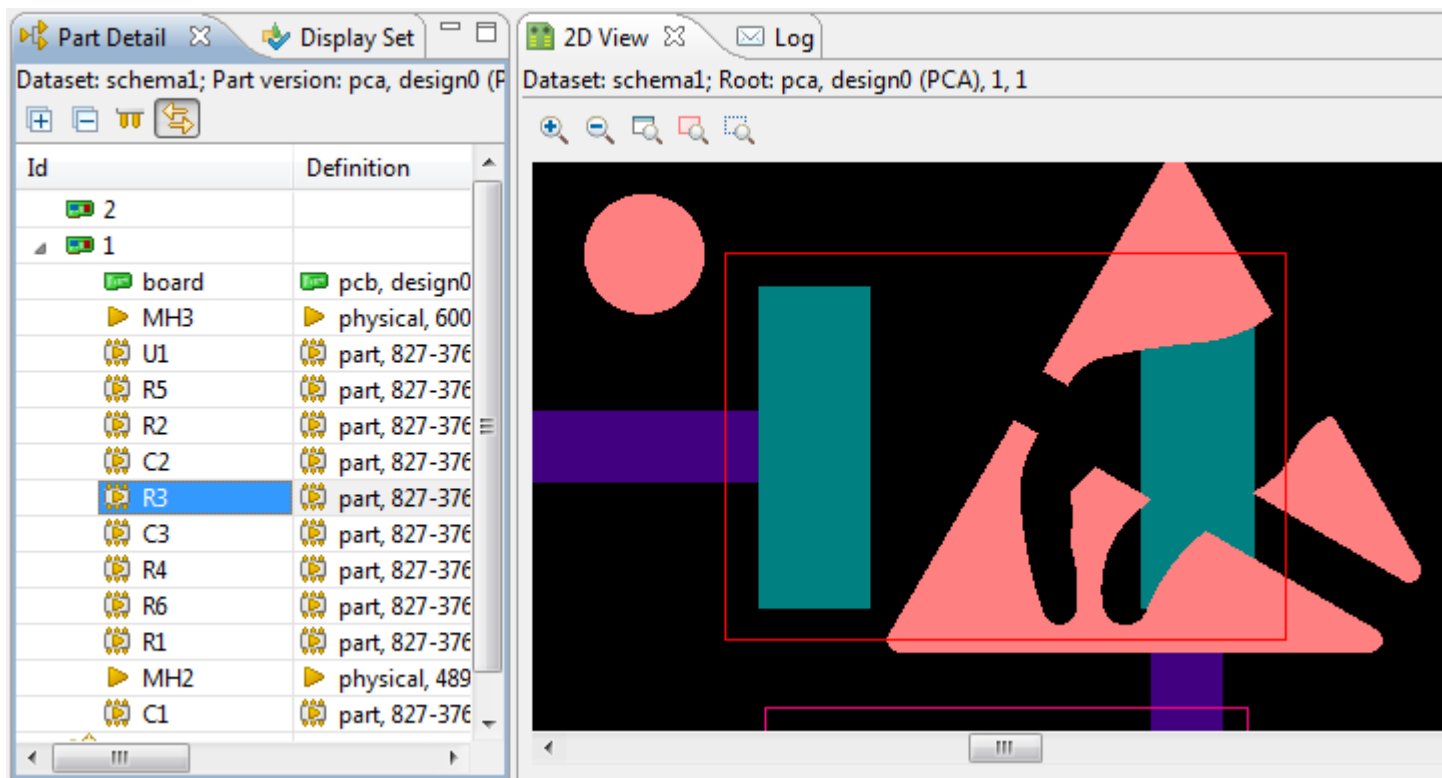

Figure 2. Selected part is highlighted in 2D View (red color)
- Selecting a PCA component in the **Part Details** view, highlights a particular component in **2D View** (see Figure 2).